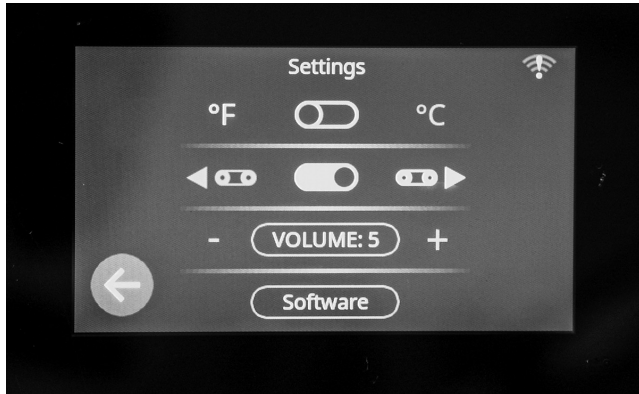

Figure 21
3. Temperature Measure - Touch the white circle in the oval button on the Settings display that shows the temperature measure. The Fahrenheit or Celsius symbol will change to correspond to the desired temperature unit of measure. (Figure 21)